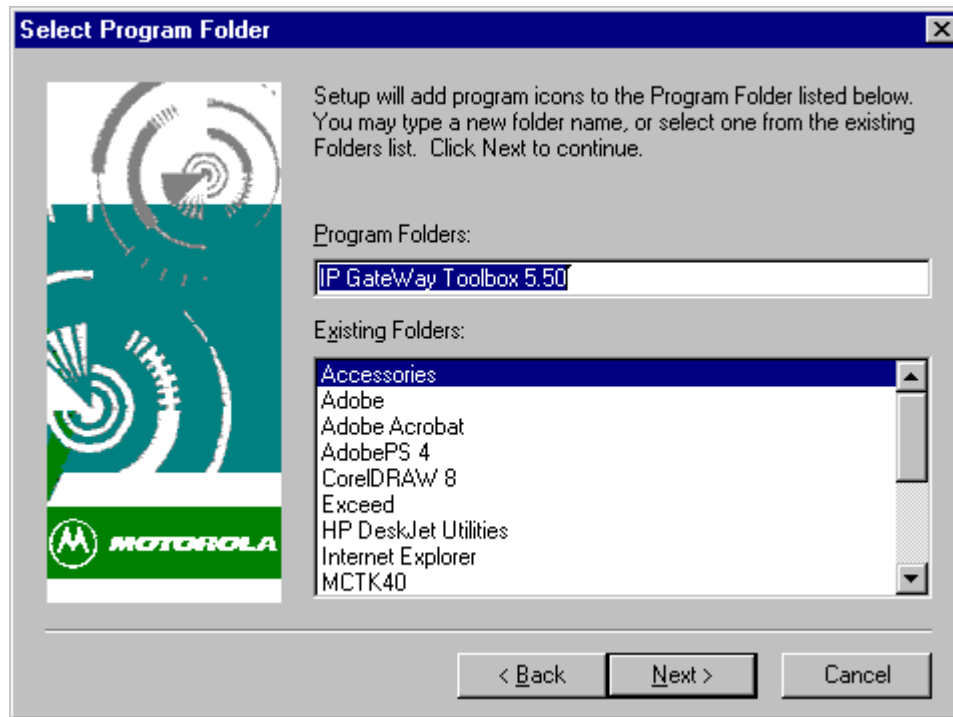

Figure 4-7: Select Program Folder screen
7. The *Select Program Folder* screen suggests that you install the Toolbox icons in the IP Gateway Toolbox folder (see Figure 4-7). If you wish to install the Toolbox icons in a different folder, select a program folder from the Folders list, or, if you wish to create a new folder, type a new program folder name. Click **NEXT**.